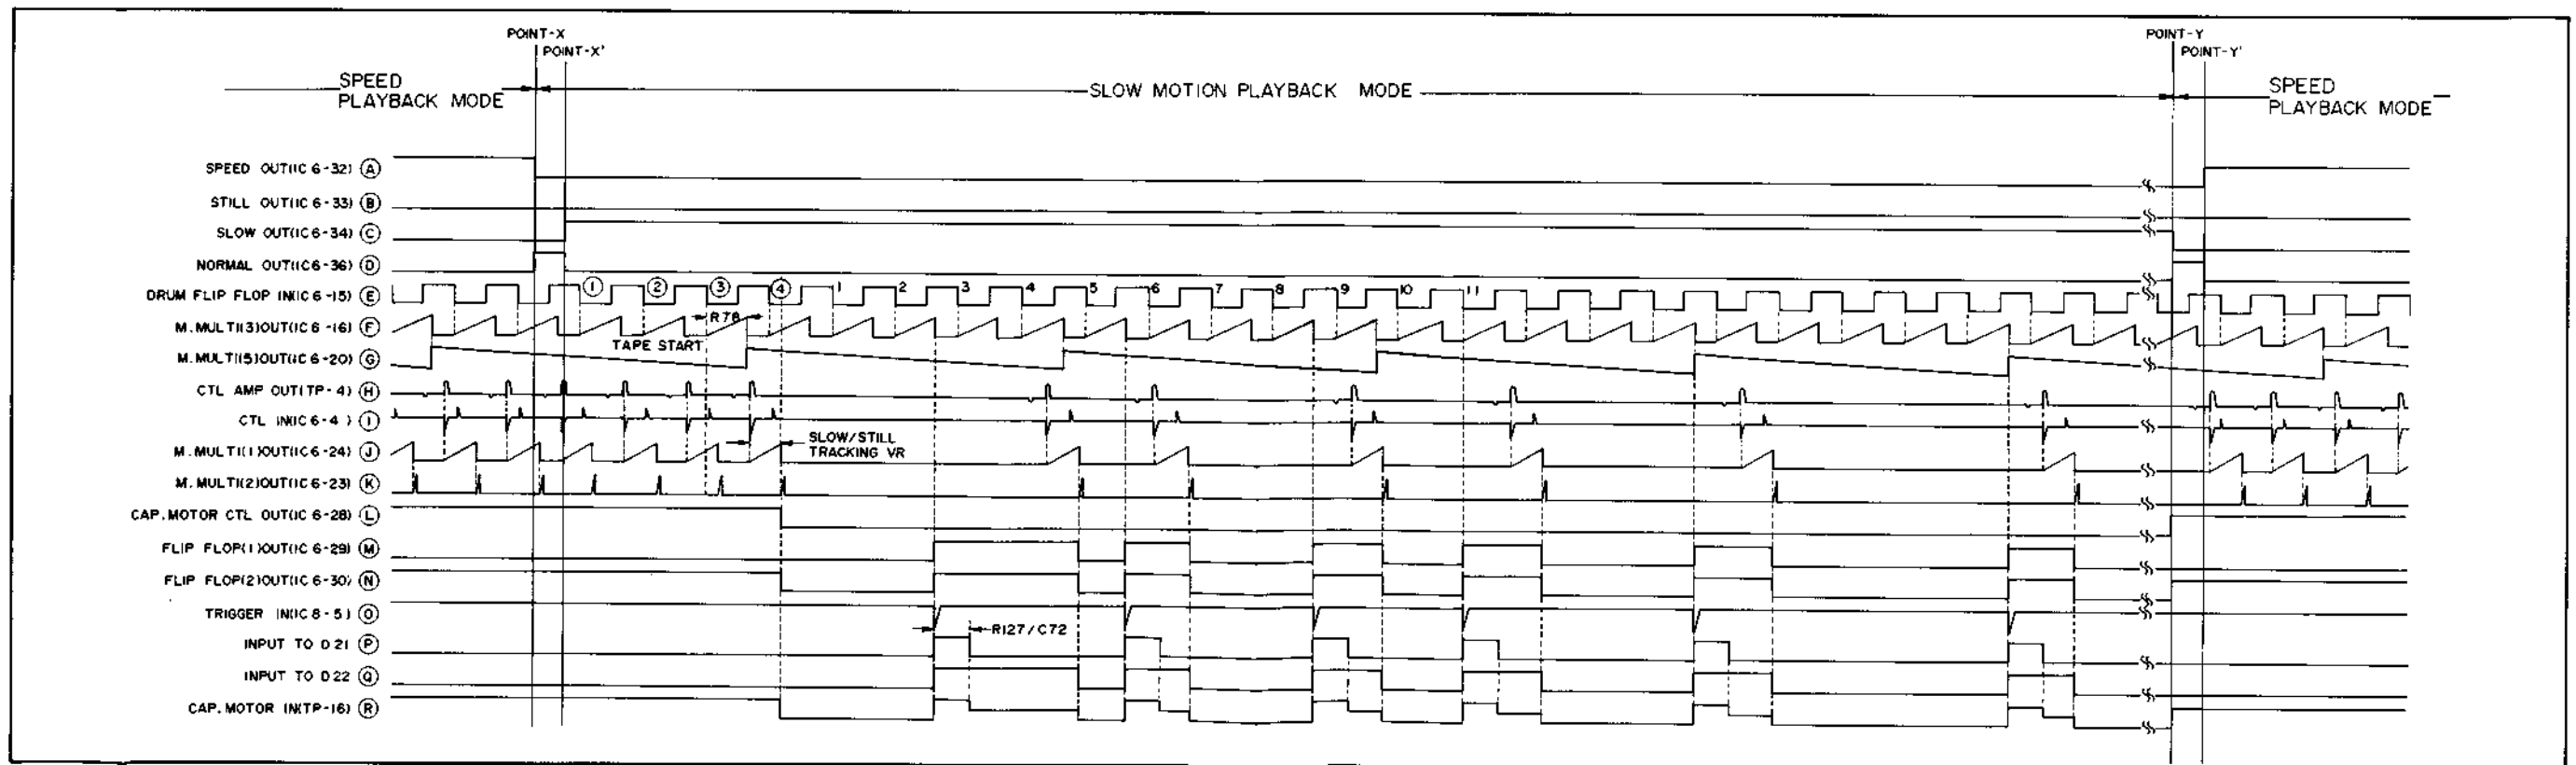

Fig. 2-12 Timing chart at switching from speed playback to slow motion
Point X in Fig. 2-12 indicates when the mode is switched from speed to slow motion playback. At this point, speed out (A) becomes released and normal playback obtained to Point X'. This is determined by the remote controller switch timing.
Operations when switching from the speed to the still playback mode can be adequately understood by referring to Fig. 2-12.